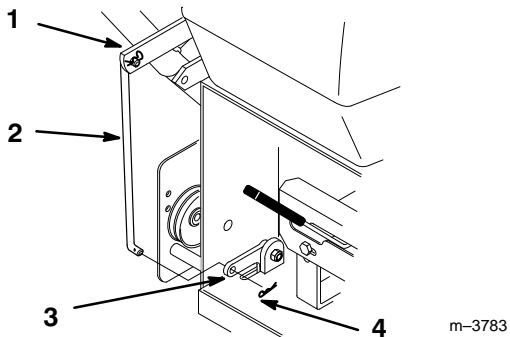

**Figure 7**
1. Place throttle control lever in FAST position.(Fig. 7).
2. Hook wire Z-bend into hole of speed control lever (Fig. 7).
3. Loosen cable clamp screw allowing cable installation, but do not tighten (Fig. 7).